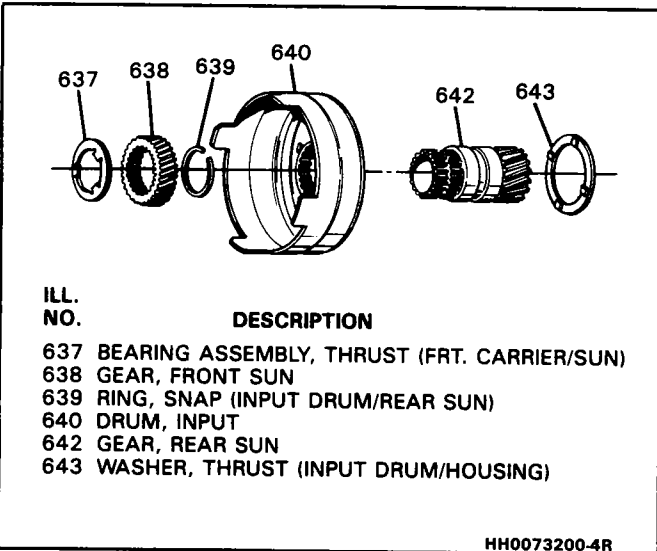

Figure 54 Installing Front Sun Gear and Input Drum
**Disassemble (Figure 54)**
- Snap ring (639).
- Rear sun gear (642) from input drum (640).
**Assemble (Figure 54)**
- Rear sun gear (642) into input drum (640).